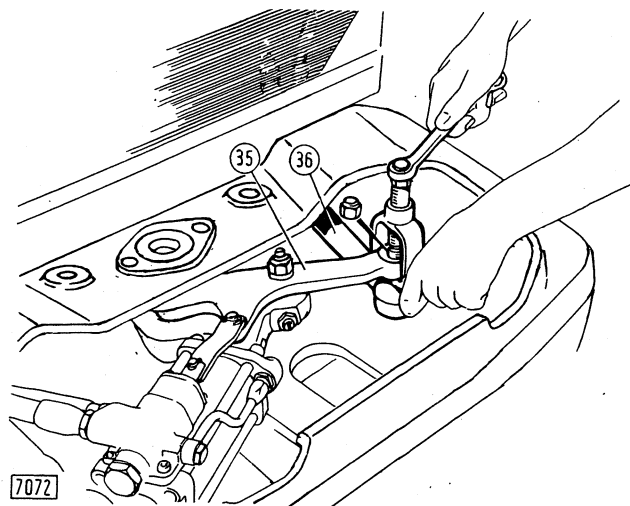

Fig. 6 - Removing the drag link (36) from control lever (35) with puller 291002.
- disconnect the drag link (36, Fig. 6) from steering lever (35) using, if necessary, the puller 291002 ;